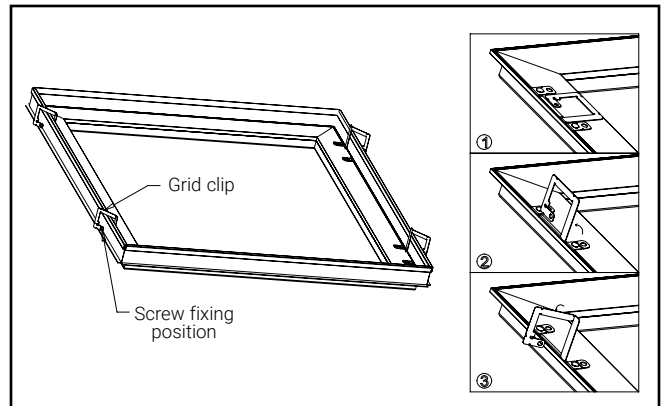

Figure 6.
7. Install the grid clip onto the t-grid as shown. If additional retention strength is necessary, a screw may be placed in the flag of the grid clip attaching it to the t-grid. (Screws not included) See Figure 6.